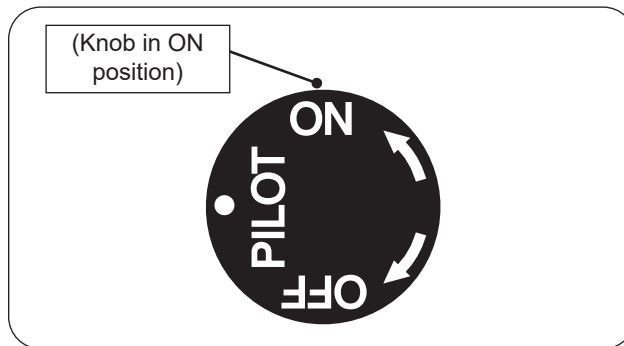

Fig. 36-1 Manual lighting
1. Ensure the pilot is burning. Turn the control knob counterclockwise ↺ to **ON** to ignite the burner (see Fig. 36-1).